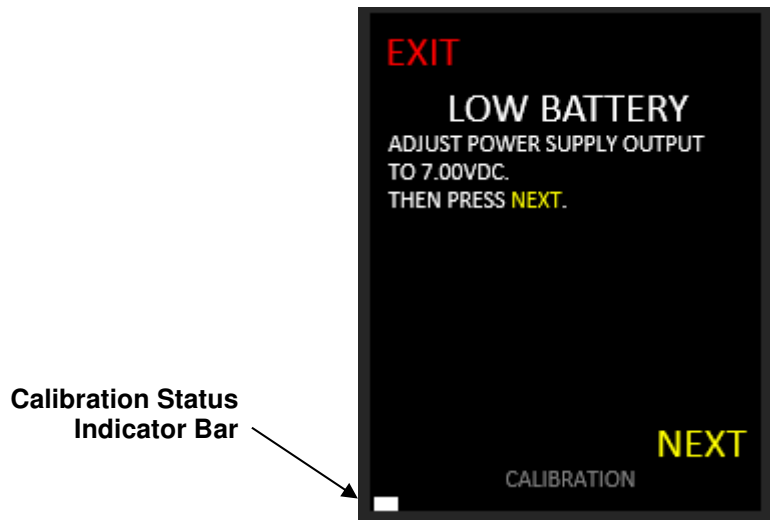

Figure 7. Set Low Battery Level
- 5.8 Per Figure 7, below, adjust the Power Supply to  $7.00 \pm 0.01$  VDC, using a voltmeter if necessary. Select NEXT to continue. The white bar at the lower left of the screen is a calibration status indicator which becomes longer as the calibration proceeds.